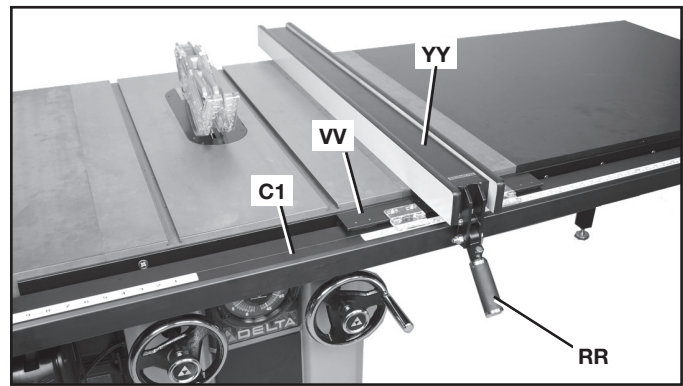
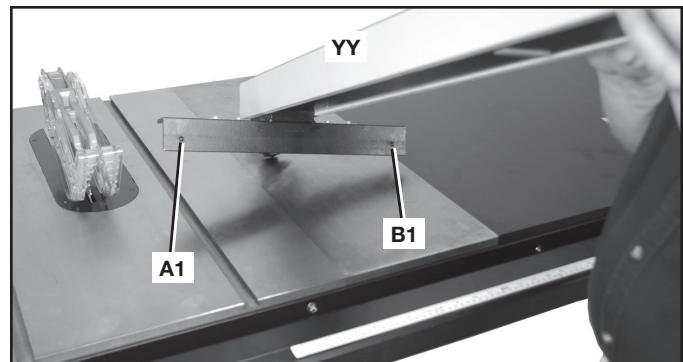

FIG. 24
FIG. 25
When the fence locking handle (RR) Fig. 24, is pushed to the down position, the fence crossarm (VV) should be completely clamped to the guide tube (C1).
If the fence crossarm (VV) Fig. 24 is not completely clamped to the guide tube (C1) when the handle is pushed down, as shown, lift up handle (RR), raise fence off the guide tube and turn fence around as shown in Fig. 25.
**If fence is too loose** - slightly tighten the two adjusting screws (A1) Fig. 25 and (B1).
**If fence is too tight** - loosen the two screws (A1) and (B1) in Fig. 25.
Replace the fence back on the guide tube (C1) Fig. 24 and recheck to see if the fence crossarm is completely tightened to the guide tube with the locking handle (RR) pushed down. Adjust further if necessary.
**NOTE:** Re-check the fence (YY) Fig. 24 and make sure it is still parallel with the miter gauge slot.